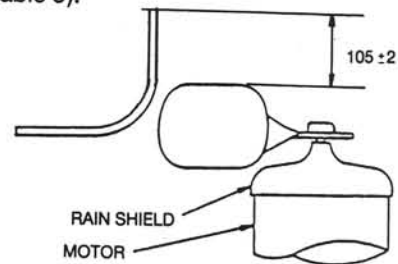

Fig. 11 – Motormaster Fan Adjustment
Step 2 – Modify lead fans (see fig. 11, Tables 5 and 10).
Change 2 lead fan blades (fig. 11).
**Step 2 – Modify Lead Fans** change lead fan motors, add capacitors, change lead fan blades and fan motor support as shown in fig. 11.
Each fan motor is supported by a formed-wire mount bolted to the fan deck and covered with a wire guard. Figure 11 shows proper position of fan blade in orifice.